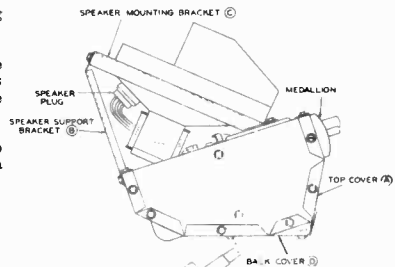

Fig. 4
1. Place the radio in an upside down position on the service bench. (See Fig. 4)
3. Remove the speaker mounting bracket (C) from the set housing and speaker support bracket (B). (4 screws)
7. Remove the top cover (A) (13 screws). Lift the dial light assembly off of the front cover.
8. Remove the speaker support bracket (B). (2 screws)
9. Turn radio over in an upright position. Remove 11 screws from the back cover (D).